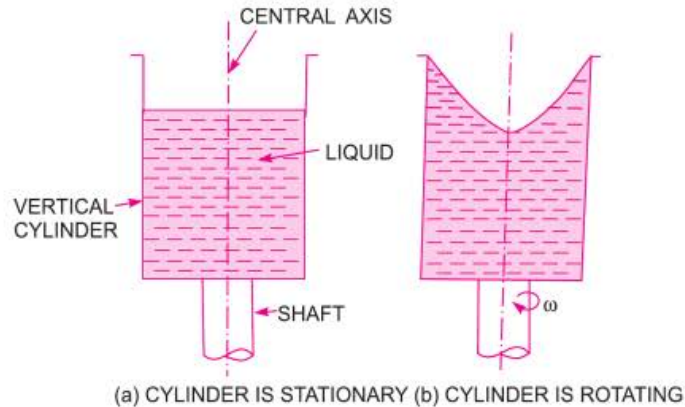

Fig. 5.12 Forced vortex flow.
1. A vertical cylinder containing liquid which is rotated about its central axis with a constant angular velocity ω , as shown in Fig. 5.12.